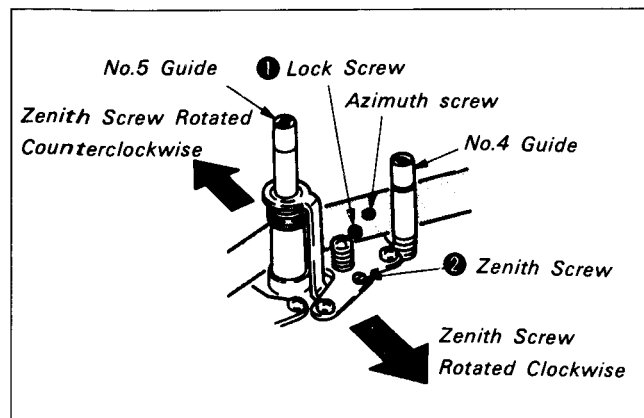
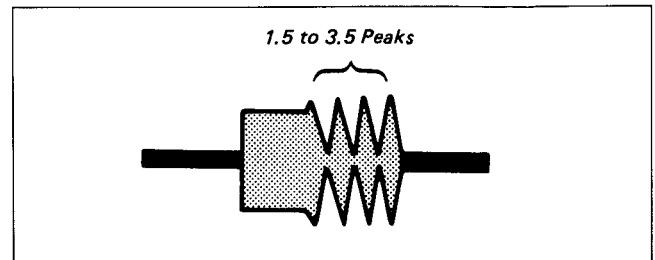

Fig. 7-73.
Fig. 7-74.
- 1) Playback the alignment tape (WR5-1C) for tracking. Rotate No.4 guide counterclockwise and No.5 guide clockwise in order to make the tape running on the exit side free. (See Fig. 7-73.)
- 2) Check that the RF waveform on the exit side has 1.5 to 3.5 peaks. If not, readjust as follows: (See Fig. 7-74.)
- i) Rotate the lock screw ① counterclockwise to loosen.
- ii) Slowly rotate the zenith screw ② 45° at a time and wait until the RF waveform varies.
- iii) Rotate the lock screw ① clockwise to tighten. (See Fig. 7-73.)